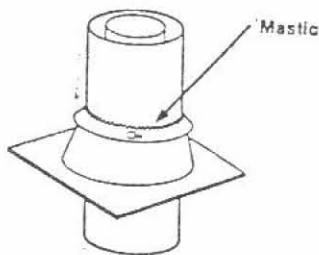

Figure 35
Step 8: The standard Superior roof flashing assemblies include a storm collar. Slide storm collar over outer flue, align with top surface of flashing, insert storm tab in slot, pull tight and bend tab back over slot. Seal storm collar to outer flue pipe with roof caulking or mastic around entire circumference of pipe. (Also add extra roof caulking where storm collar meets flashing and to the tab/slot area to seal completely against water penetration (Figure 35). Check all joints very carefully to insure no water intrusion can take place.